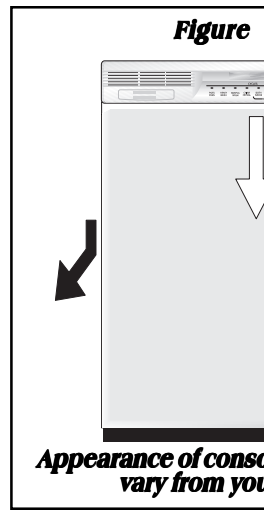

Figure 16b
3. Place one hand on each side of door and pull down at top approximately 1/4". Pull entire door assembly toward you to remove. See Figure 16b.